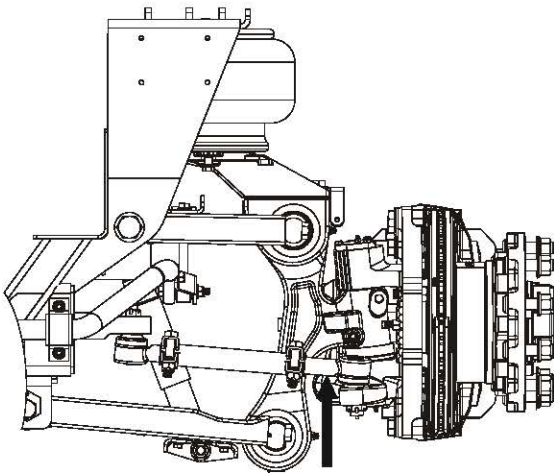

Figure 18 - Tie Rod
3. Adjust the length of both outer tie rods equally such that the toe-in on each side is $1/16'' \pm 1/32''$ and the over all toe-in is $1/8'' \pm 1/16''$. Tighten tie rod clamp nuts to **50-60 ft-lb** (See Torque Table). Refer to **Figure 18** for tie rod clamp orientation.